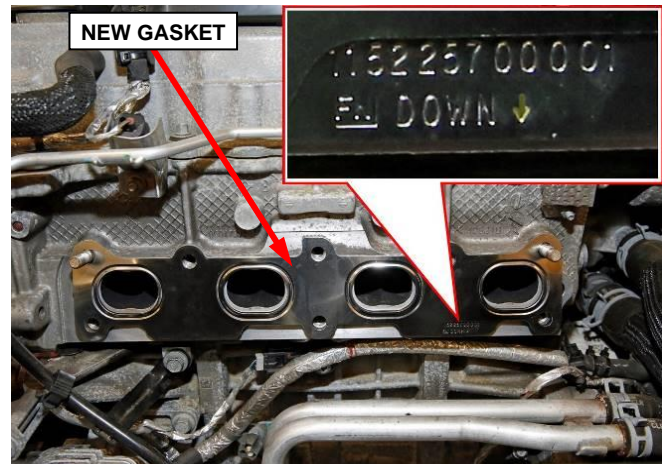

Figure 14 – Install New Gasket
24. **DO NOT APPLY SEALER.** Install a **NEW** exhaust manifold gasket onto the cylinder head, taking care that the arrow shown in the figure is pointing downwards (Figure 14).